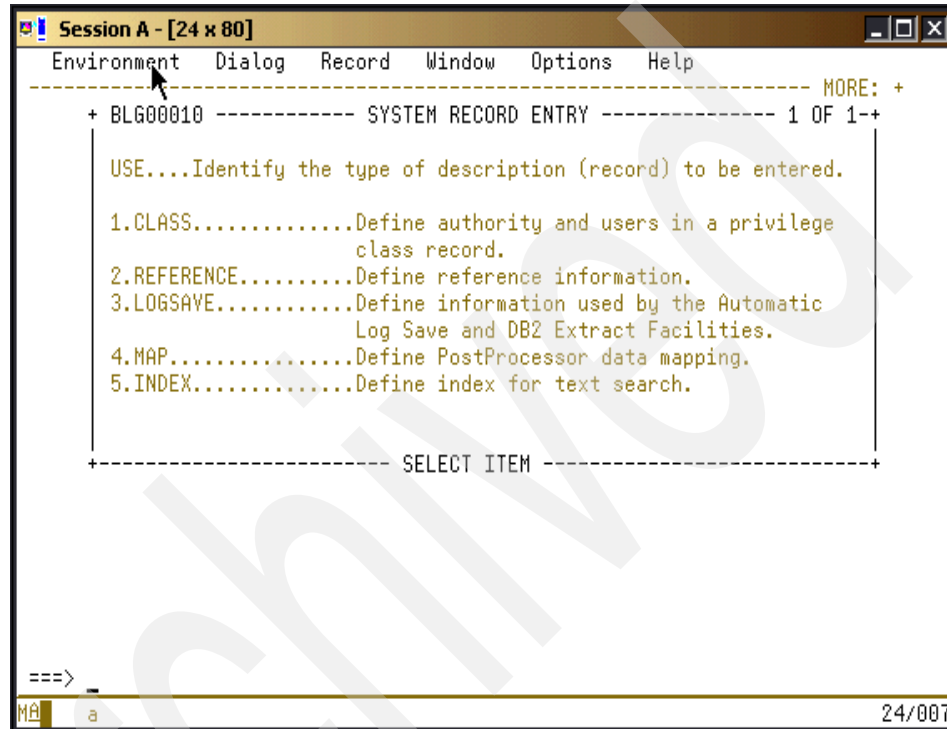

Figure 2-6 System record entry panel
1. Select option **5 - ENTRY** on the Infoman PRIMARY OPTIONS MENU. The SYSTEM RECORD ENTRY panel shown in Figure 2-6 displays.